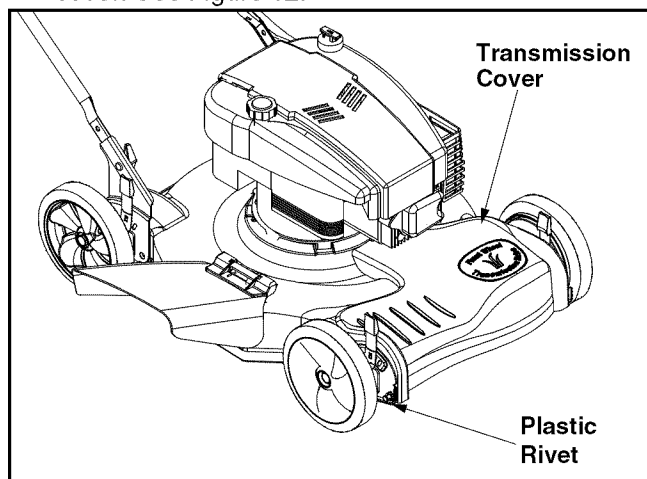

Figure 12
- Remove the transmission cover by sliding off the two plastic rivets with a screwdriver on each side of cover. See Figure 12.